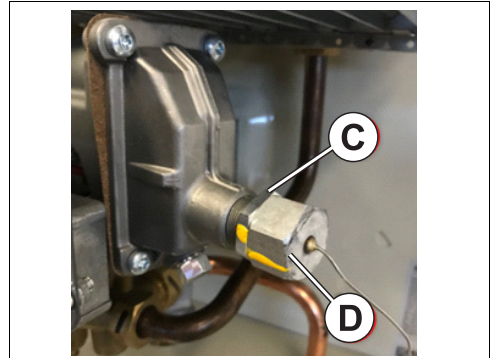

Fig. 16 Thermostat adjustment
- ▶ To make adjustments, loosen the locking nut (fig. 16 [C]) and turn the thermostat adjustment nut (fig. 16 [D]) clockwise to decrease temperature, and anticlockwise to increase, to achieve the required 60 °C.